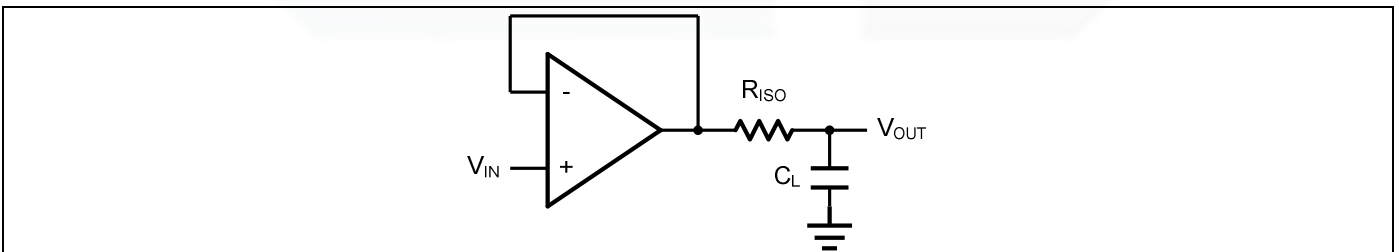
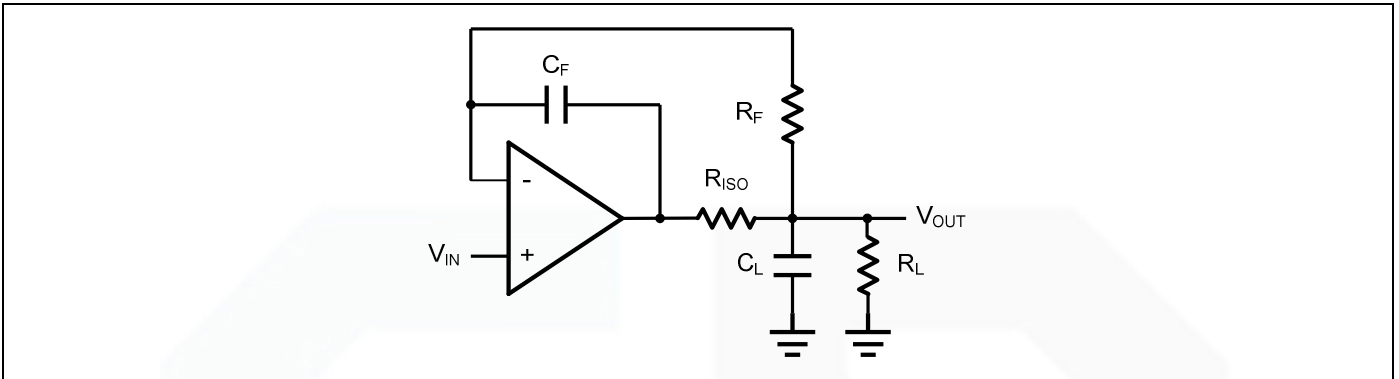

Figure 2. Indirectly Driving a Capacitive Load Using Isolation Resistor
Figure 3. Indirectly Driving a Capacitive Load with DC Accuracy
The GS8358 is optimized for bandwidth and speed, not for driving capacitive loads. Output capacitance will create a pole in the amplifier's feedback path, leading to excessive peaking and potential oscillation. If dealing with load capacitance is a requirement of the application, the two strategies to consider are (1) using a small resistor in series with the amplifier's output and the load capacitance and (2) reducing the bandwidth of the amplifier's feedback loop by increasing the overall noise gain. Figure 2. shows a unity gain follower using the series resistor strategy. The resistor isolates the output from the capacitance and, more importantly, creates a zero in the feedback path that compensates for the pole created by the output capacitance.
The circuit in Figure 3 is an improvement to the one in Figure 2. R_F provides the DC accuracy by feed-forward the V_{IN} to R_L . C_F and R_{ISO} serve to counteract the loss of phase margin by feeding the high frequency component of the output signal back to the amplifier's inverting input, thereby preserving the phase margin in the overall feedback loop. Capacitive drive can be increased by increasing the value of C_F . This in turn will slow down the pulse response.